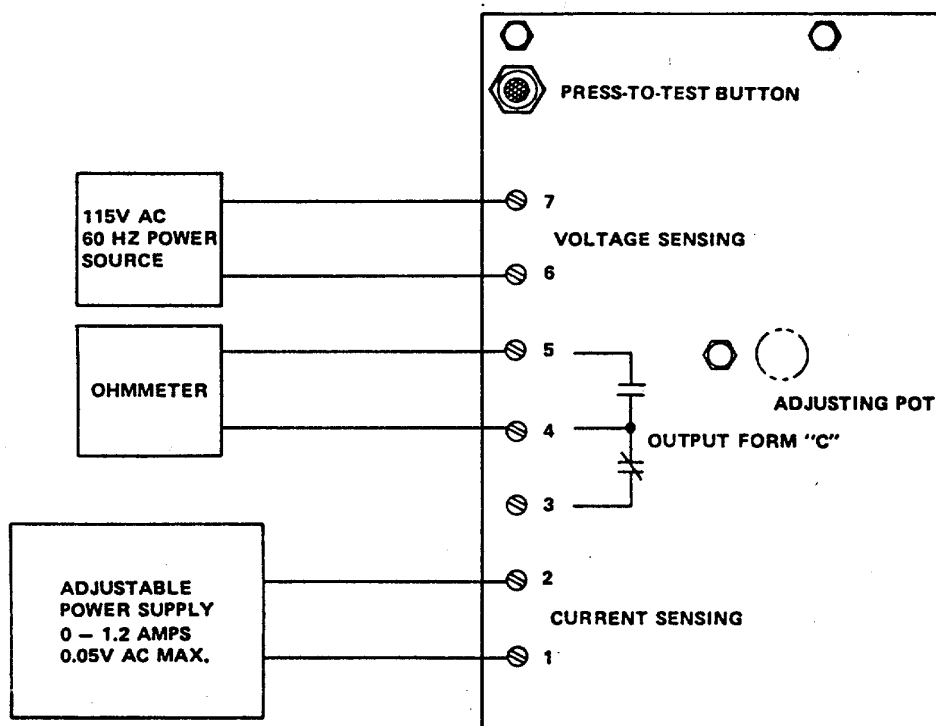

Figure 5-11. Reverse Power Relay K112, Test Setup
- (a) Connect a 0 to 1.2 amp, 0.05V AC maximum, power source to terminals 1 and 2 (see figure 5-11). Connect a 115V AC, 60